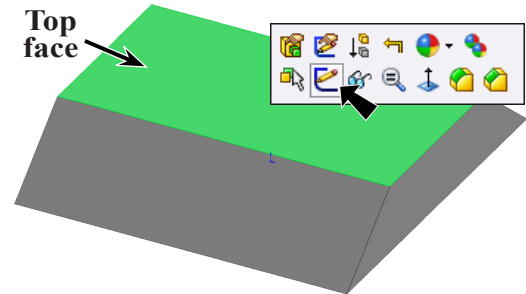

Fig. 7
Step 1. Click **Top face** and click **Sketch** on the Context toolbar, **Fig. 7**.